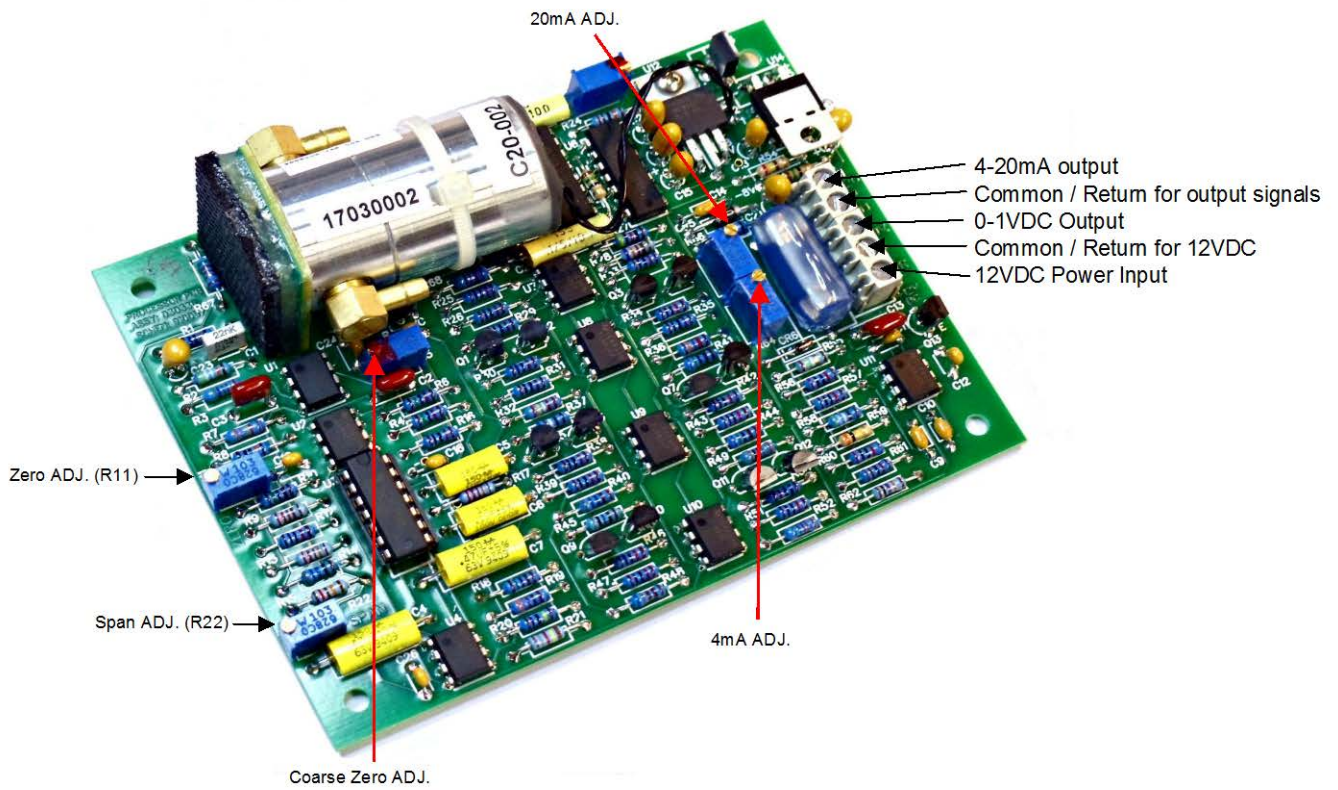

FIGURE 1 (Valtronics Model 2008SDH-2AP)
| | Figure 1 - Model | 3 |
II. DESCRIPTION (See Figure 1)
B. Wiring (See Figure 1)